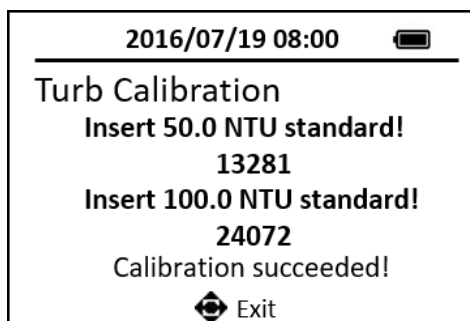

Figure 14. High Range Turbidity Calibration
8. Press the **OK** key to continue high range turbidity calibration. If high range turbidity calibration not required, press any keys to exit. (Figure 14)